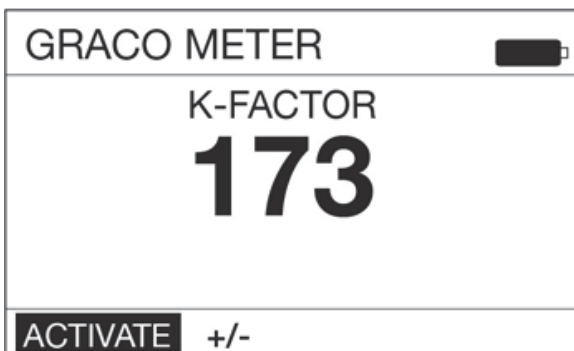

FIG. 26
6. The calibration k-factor screen shown in FIG. 26 displays.